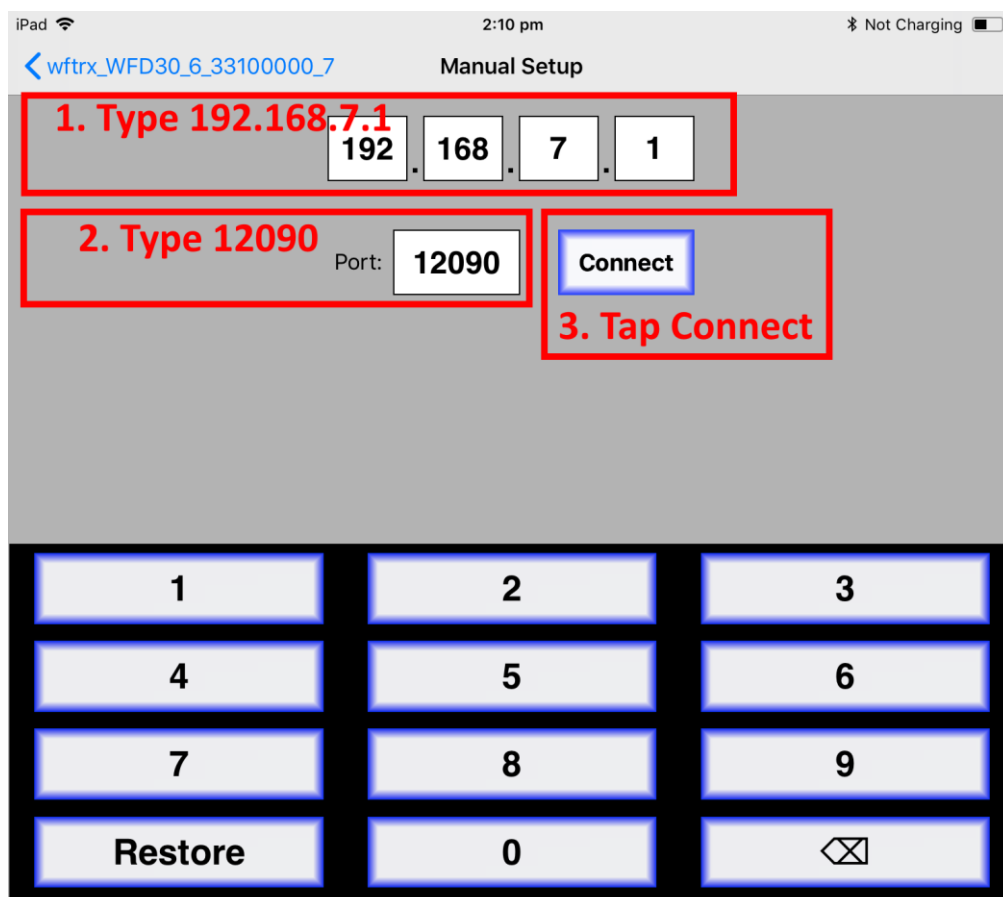

Figure 11 Connect manually if needed
- (9) If for some reason there is nothing in the “Available WiThrottle Servers” list, tap “Configure” or “Search for Wi-Fi Modules” and follow a. or b below.
- Configure: The WFD-30/31 always has the IP Address 192.168.7.1 on its own access point, so type this IP Address. Then type 12090 into the Port textbox and tap the Connect button as Figure 11. The green network LED on your WFD-30/31 should now flash regularly to show that the UWT-100 is communicating with it.